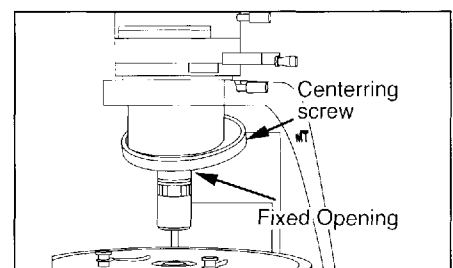

Figure 4
- Remove the objectives from their objective cases while being careful not to touch any part of the optics. Strain free objectives are marked with the letter "POL" in red and are very sensitive and are susceptible to pressure or impacts. They should only be handled by the knurled collar. Gently screw the 10X objective into the "fixed" opening of the nosepiece (the opening that does NOT have centering screws).(Fig.4) Install the rest of the objectives incrementally in order of power (e.g. 4X, 40X, 60X, etc).
- Remove the objectives from their objective cases while being careful not to touch any part of the optics. Strain free objectives are marked with the letter "POL" in red and are very sensitive and are susceptible to pressure or impacts. They should only be handled by the knurled collar. Gently screw the 10X objective into the "fixed" opening of the nosepiece (the opening that does NOT have centering screws). Install the rest of the objectives incrementally in order of power (e.g. 20X, 40X, 60X, etc) .(Fig.4)